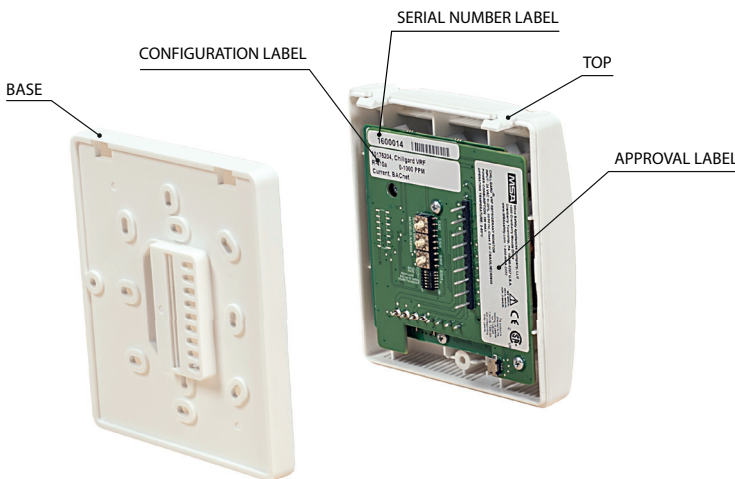

Figure 1: Base and Cover
This detector detects R410a with a number of output options. This includes analog output (current or voltage) and RS-485 digital output (Modbus or BACnet). Check label provided on the printed circuit board (Figure 1- shows the label).
The detector consists of two basic parts, the base and the cover (Figure 1). The cover incorporates the electronics with the sensing elements.
Refer to the serial number label (Figure 1) for the default Instance Number (also Serial Number). If switch S303-5 is ON (H) then the factory default is used and is unchangeable. If S303-5 is OFF (L) then a user programmable Instance Number is used, although it is initialized to the factory default.